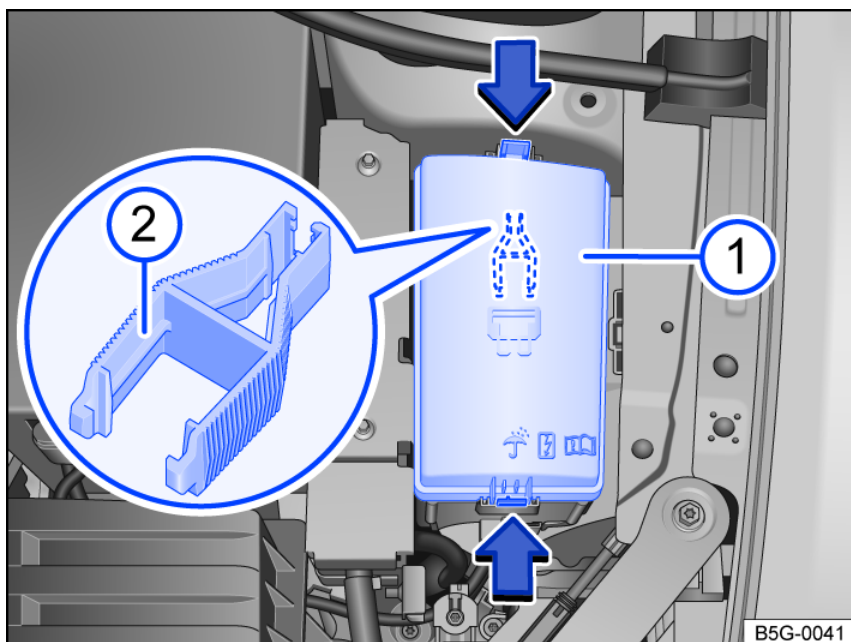

Fig. 136 In the engine/motor compartment: fuse box cover (1) with plastic pliers (2).
- Press the catches in the direction of the arrow *fig. 136* to release the fuse box cover *fig. 136* (1).
There are plastic pliers for removing fuses on the inside of the fuse box cover In the engine/motor compartment *fig. 136* (2).